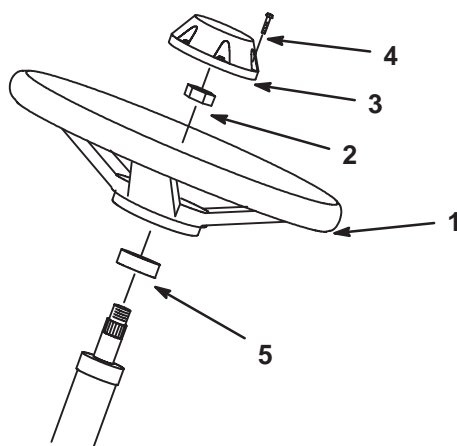

Figure 2
2. Remove jam nut from steering shaft. Slide foam seal and steering wheel onto steering shaft (Fig. 2).
4. Install cap to steering wheel with screw (Fig. 2).